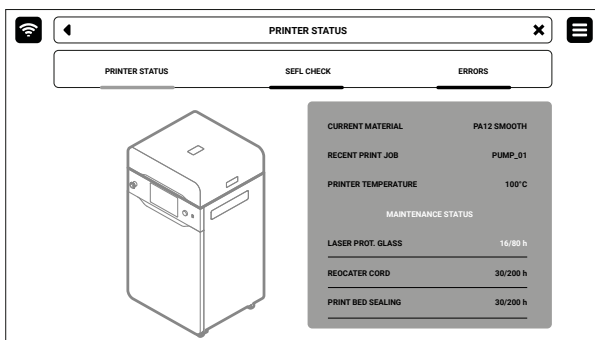

Fig. 12.2 The **PRINTER STATUS** screen.
- PRINTER STATUS** tab, in which you can check the current status of the printer and the condition of the printer components (fig. 12.2). Components requiring maintenance and cleaning are: